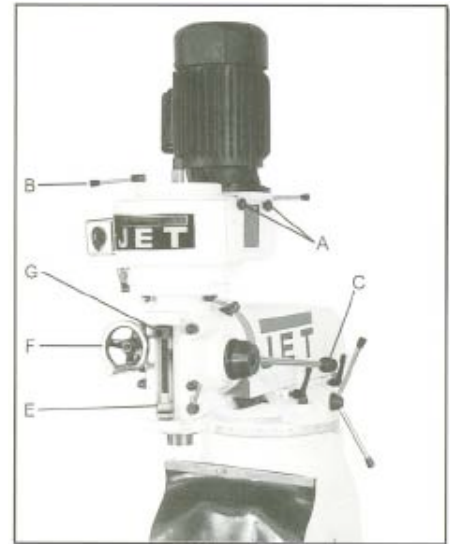

Fig. 4
- A. Belt Cover Lock Knobs** (A, Fig. 4) located on the right side of the head. Loosen and remove belt cover to change belt position on the pulleys.
- B. Spindle Brake** (B, Fig. 4) located on left side of the head. Move in either direction to stop spindle once power has been turned off.
- C. Quill Feed Handle** (C, Fig. 4) located on the right side of the head. Rotate counterclockwise to lower spindle. Return spring will retract the spindle automatically once the handle is released.
- E. Micrometer Adjusting Nut** (E, Fig. 4) located on the front of the head. Use for setting specific spindle depth.
- F. Manual Fine Feed** (F, Fig. 4) located on the left side of the head. Must engage fine feed (I, Fig. 5) for handwheel to function.
- G. Quill Stop** (G, Fig. 4) located on the front of the head. Used in conjunction with micrometer adjusting nut for predetermined depth.
1. Unscrew three screws (A, Fig. 4) and remove belt cover.